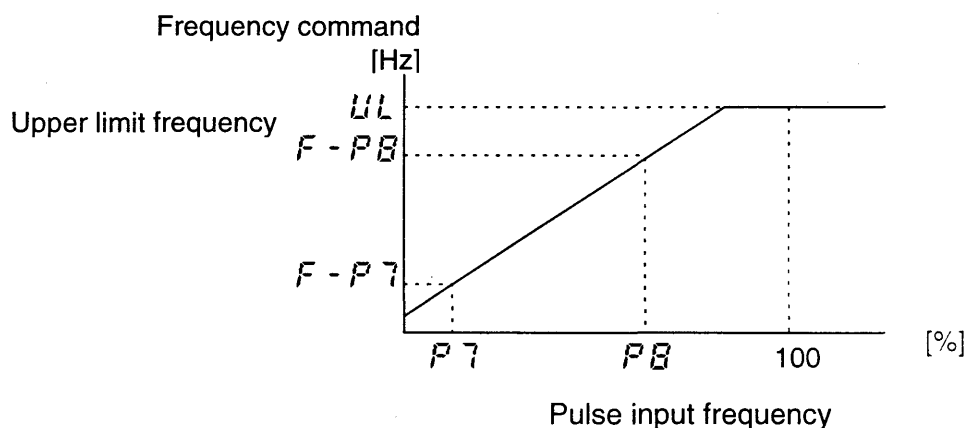

Figure 2-4 Pulse input frequency and frequency command value
*3: For adjustment of Gain and Bias relative to the pulse input frequency, see figure 2-4.